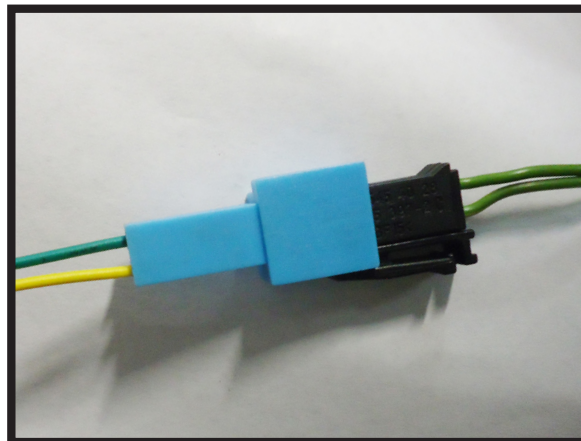

FIGURE 41
3. CONNECT LIGHT BLUE CONNECTOR FROM ELECTRONIC BYPASS MODULE TO THE WIRE HARNESS SIDE OF THE VEHICLE N-51 CAN-BUS 2 PIN CONNECTOR. (FIGURE 41)